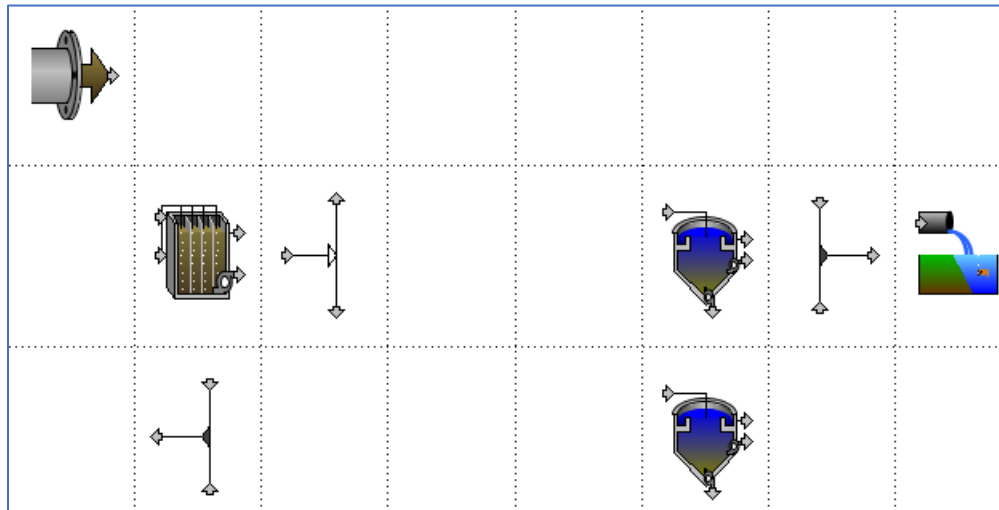

Figure 3-4 - Add Splitter and Combiners
10. **Add processes to the drawing board.** From the *Flow Combiners and Splitters* group in the **Process Table** we will need one **2-Flow Splitter** and two **2-Flow Combiners**. Position the objects so that your layout now resembles **Figure 3-4**.